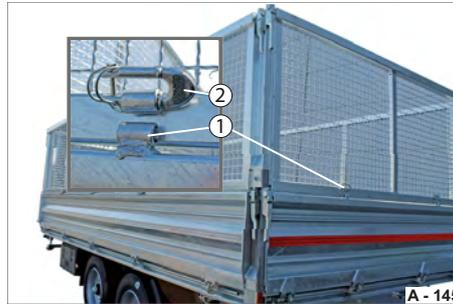

Fig. 151 Hinges, unfastened
- ▶ Release all hinges (Fig. 151/1) of the steel grate attachment.
- ▶ Park the U-bracket (Fig. 151/2) so it is secured from falling out.